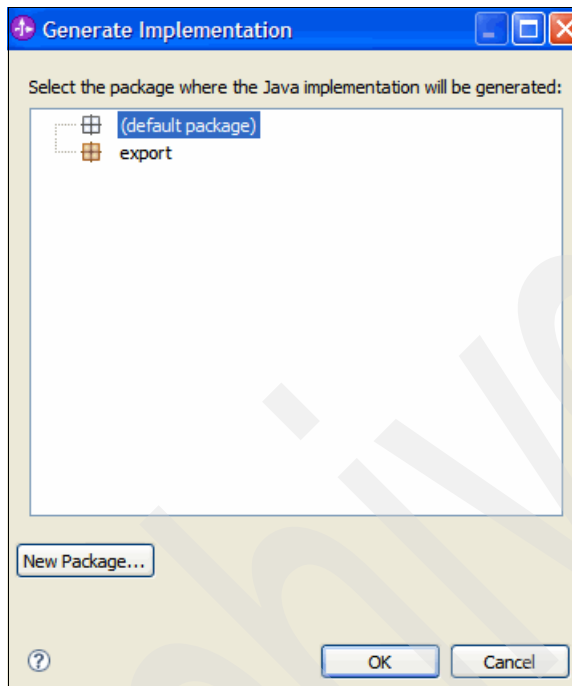

Figure 6-22 Using the default package selection
6. In the Generate Implementation window (Figure 6-22), under Select the package where the Java implementation will be generated, use the default and click **OK**. The OrderPOJO Java implementation class automatically opens.